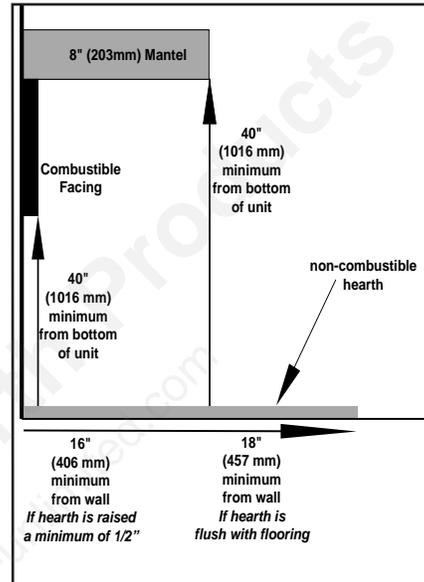

Figure 25: Mantle width and height.
The ENVIRO E44 may be installed and vented into any solid fuel fireplace that has been installed in accordance with the National, Provincial/State and local building codes and has been constructed of non-combustible materials. Before starting, refer to INITIAL INSTALLATION - PREPARING YOUR E44 FOR INSTALLATION. Please reference the information in Table 4 and Figures 25, and 28.
1. Plan your installation and clearances to combustibles. The E44 may be installed and vented into any solid fuel fireplace that has been installed in accordance with the National, Provincial/State and local building codes and has been constructed of non-combustible materials. Also refer to the INITIAL INSTALLATION - PREPARING YOUR E44 FOR INSTALLATION and CLEARANCES TO COMBUSTIBLES sections. Refer to Figure 25 throughout installation.